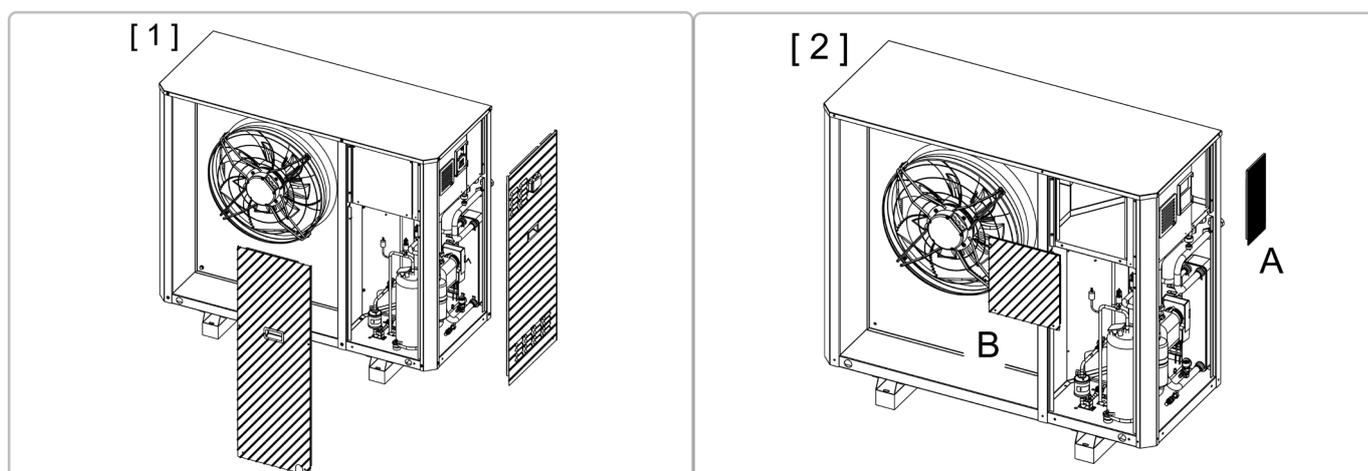

Figure 2 - Dismantling procedure
- 2) To access the electricity supply terminal unit, remove panel A by loosening the screws as indicated in figure 2
- 3) To access the user terminal unit, remove panel B by loosening the screws as indicated in figure 2